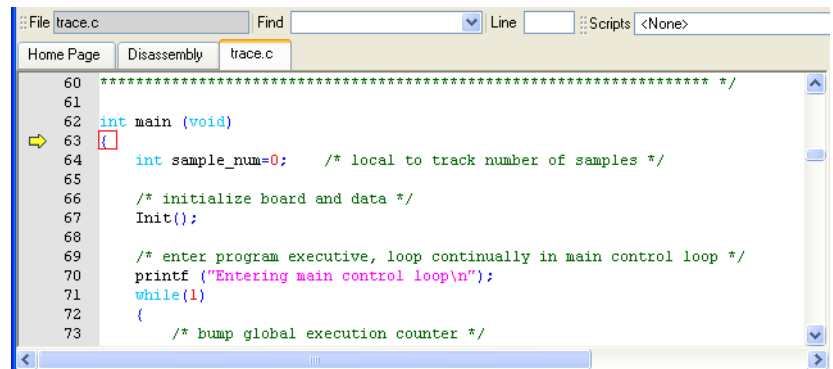

Figure 10-4 Simple breakpoint set to force display of captured trace
2. At the call to `Init()` on line 67, double-click in the gray margin. A simple breakpoint is set on that line. Figure 10-4 shows an example: